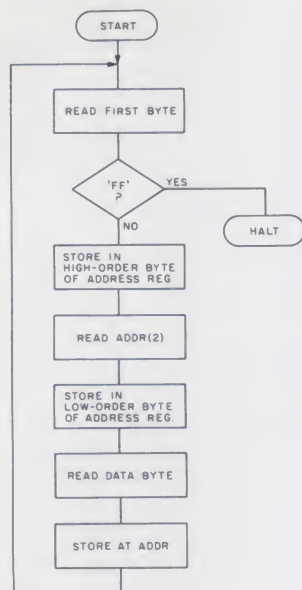

Fig. 2. Logic of the simple-minded loader for use with the tape of Fig. 1.
The program logic for this simple loader is shown in the flowchart in Fig. 2. The first character read from the tape could be either ADDR(1) or the END symbol, so the program has to make a test to see which it is. We will use hex FF as our end symbol and just hope we never need an address that starts that way. If the first character is hex FF, the program stops. Otherwise, it moves the byte into